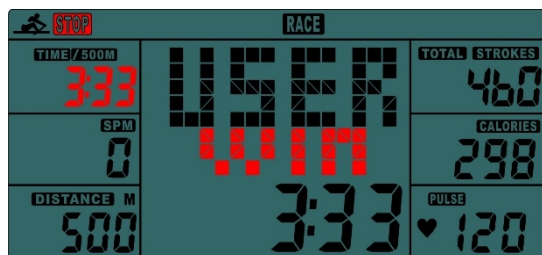

Fig.7
- B. Press START KEY to START and STOP will disappear. The USER & PC will display in the matrix.(Fig.6). The monitor will STOP when one has reached the distance of the race which has been set before, then the matrix displays “PC WIN or USER WIN” (Fig.7) and may display the state of the energy after 6 seconds.